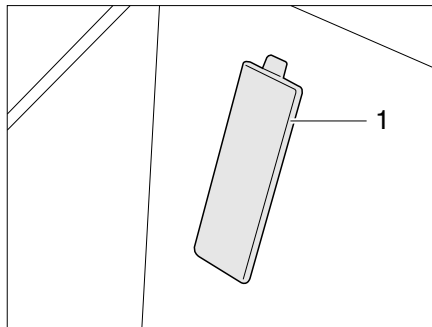

Fig. 384 Cover for chassis number (Fiat base vehicle)
- ▷ For vehicles on a Fiat chassis, the chassis number is located behind a cover (Fig. 384,1) in the entrance on the front passenger's side.